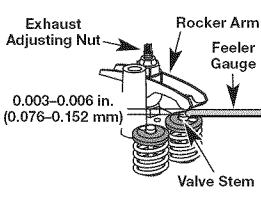

Fig. 23
7. Slide the feeler gauge between the rocker arm and the valve return spring. Measure the clearance between the valve stem and rocker arm (Fig. 23). Measure both the intake and exhaust valves.
The recommended clearance for both intake and exhaust is .003 – .006 in. (.076 – 0.152 mm). Use a standard automotive .005 in. (0.127 mm) feeler gauge. The feeler gauge should slide between the rocker arm and valve stem with a slight amount of resistance, without binding (Fig. 23).
- a. Turn the adjusting nut using a 5/16 inch (8 mm) wrench or nut driver (Fig. 23).